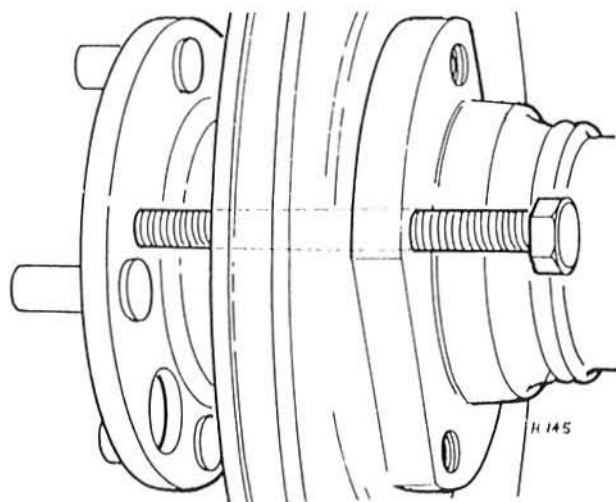

Fig 8.7 Using long bolts to withdraw the axleshaft (Sec 4)
- 4 Withdraw the axleshaft, together with the bearing. If it is tight due to the outer track seizing in the casing temporarily refit the wheel and pull on the wheel. If this is unsuccessful, use a slide hammer attached to the drive flange, or alternatively screw two long bolts through the casing at diametrically opposite points (Fig. 8.7) and tighten them progressively until the bearing is free.